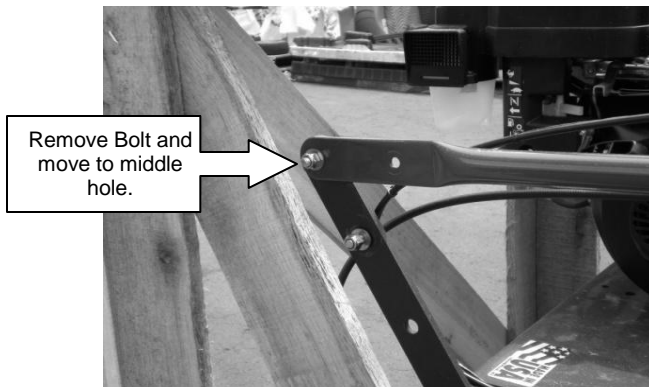

Figure 1
- Units are shipped with the handle folded in the down position. Handle bolts must be removed to correctly position the handle (see figure1). Secure the handle with all four bolts.